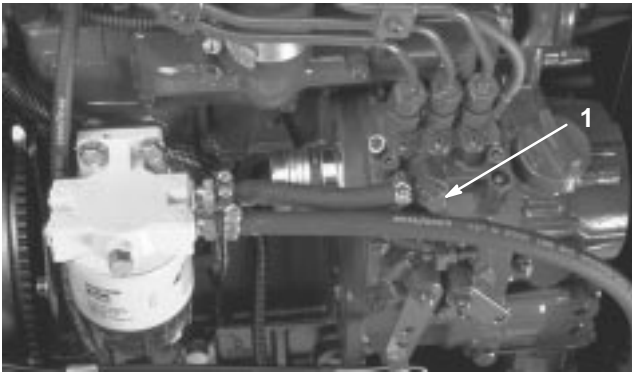

Figure 25
3. Open the air bleed screw on the fuel injection pump (Fig. 25).